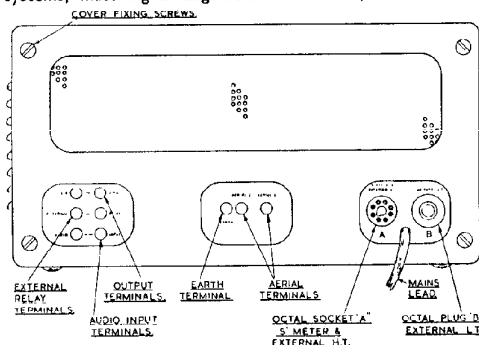

Fig. 2 Rear view of "888" Receiver in outline.
The flexible lead from the meter terminates in an octal plug which should be inserted in the socket marked "A" in Fig. 2 at the rear of the receiver.
The switch can also be used to control associated equipment such as a transmitter. Leads from one pair of contacts are taken to terminals at the rear (see Fig. 2) and these contacts are closed when the switch is in the standby ("Off") position. Externally the circuit will consist of a relay and an energising source, usually 6 or 12 volts D.C. but some relays work on A.C. of both high and low voltages. This master relay can then be used, if desired, to control other relays carrying out such functions as automatic aerial changeover, monitor on/off, modulator supplies and so on.
D.C. mains supplies are entirely unsuitable and if connected will cause serious damage. Ensure that the octal plug is in place in the octal socket "B" (nearest the side of the cabinet) as shown in the drawing, Fig. 2.
Balanced feeders are taken to the spring-loaded terminals marked "A1" and "A2" at the rear (see Fig. 2) and a short connection from a good earth made to the terminal marked "E." An unbalanced feeder (e.g. coaxial cable) is connected with the inner lead to "A1" and the outer screen to "A2," a jumper wire being placed across "A2" and "E." A single wire aerial is connected to "A1" and if possible, it should be of a length equivalent (at the operating frequency) to an odd number of quarter wavelengths—usually one or three quarter waves will be convenient. Otherwise, as mentioned earlier, it will be desirable to include a small capacitor in series with the aerial and, if this is made variable, a good match will usually be possible.